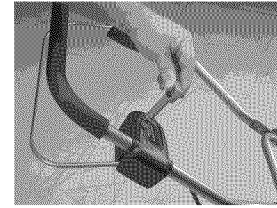

Figure 28 - Remove Key
2. Remove key (see Figure 28).